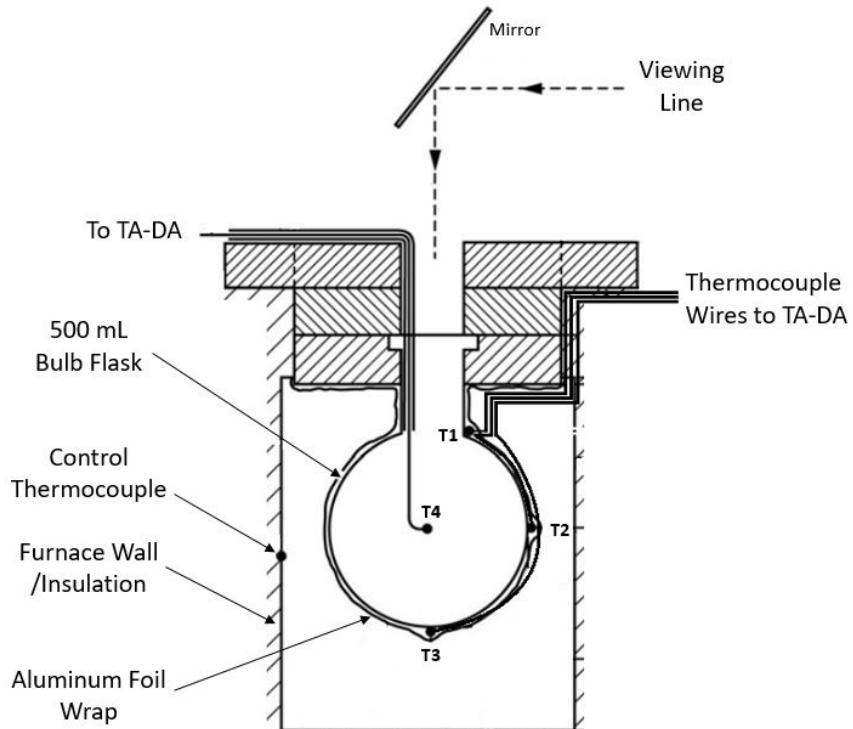

Figure 19: Diagram of the furnace when assembled
- The final setup should resemble Figure 19